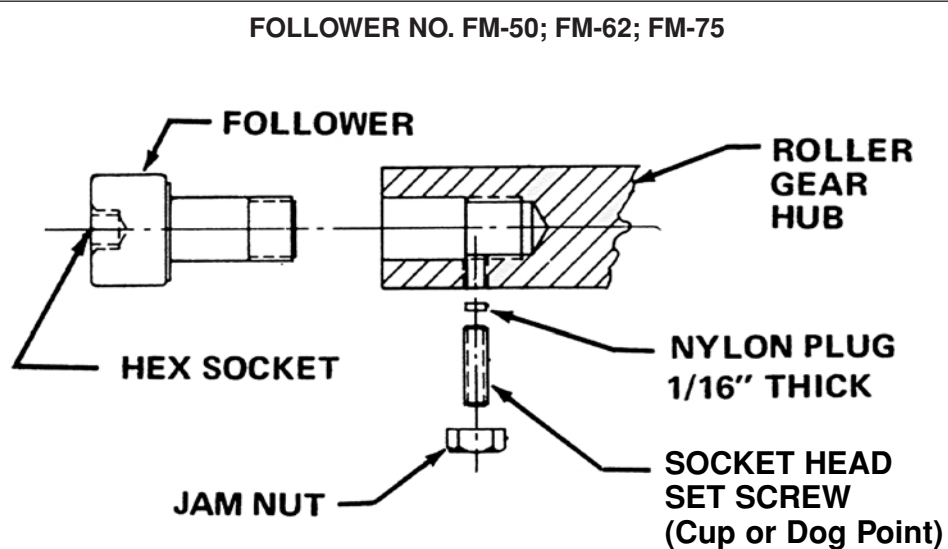

FIGURE 16
- 8.1.4. Remove and replace followers following procedures outlined in Figures 16, 17, or 18 and continue with step 5.
- 8.2.3. Remove and replace followers following procedures outlined in Figures 16, 17, or 18. Rotate camshaft until entire set has been changed and continue with step No.4.